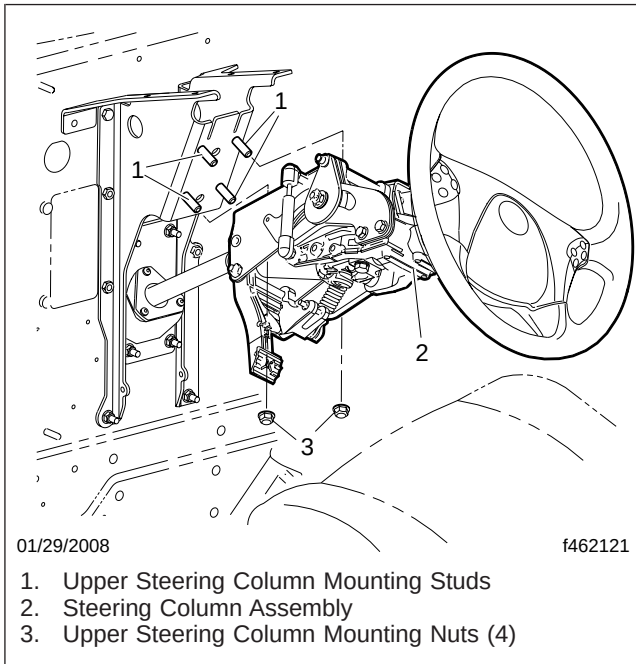

Fig. 5, Lowering the Steering Column
- the driver's seat. See Fig. 5. See Group 46 for the procedure.